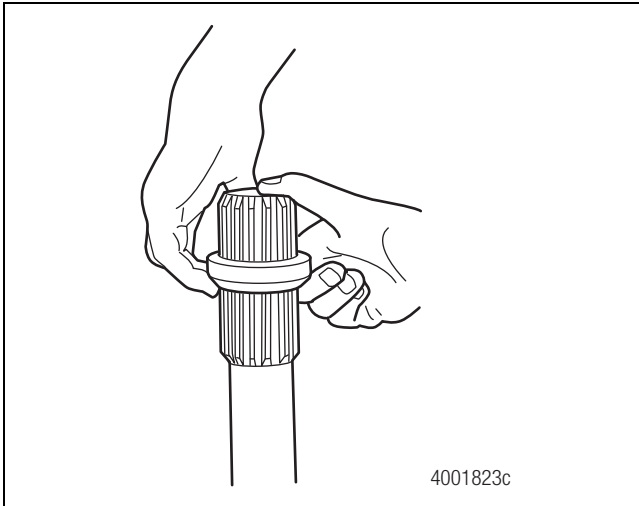

Figure 8.14
3. Remove the seal from the slip shaft. Figure 8.14.